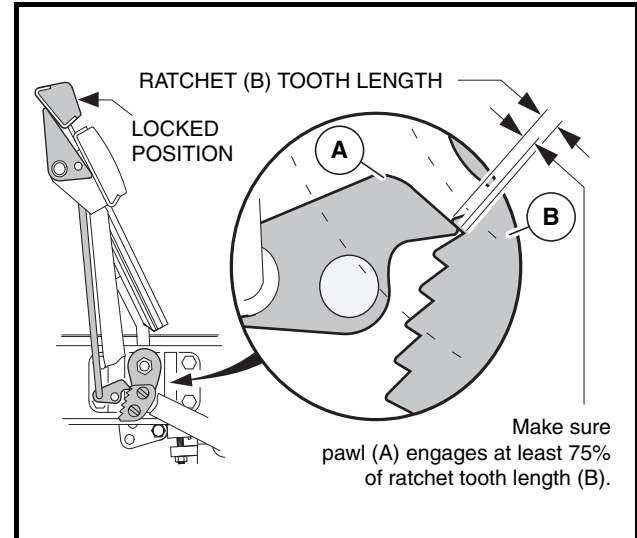

Figure 5-26 Ratchet/Pawl Tooth Engagement
- 3.4. With the park brake locked, make sure at least 75% of ratchet tooth length engages the pawl (Figure 5-26, Page 5-18). Tooth engagement should be between the two lines marked on the pawl.